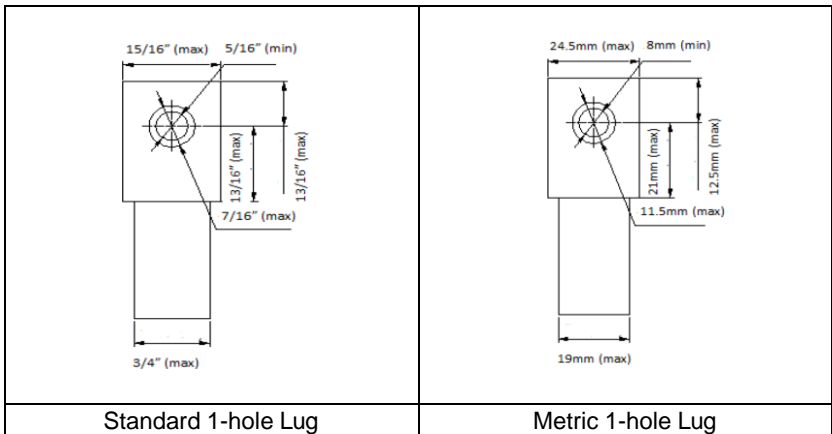

Figure 3-28 Compression Lug (OT Terminal) maximum dimensions
2. Grounding/Bonding. The inverter provides 1 grounding connection on the AC side and one bonding location. These configurations are illustrated below Figure 3-28).